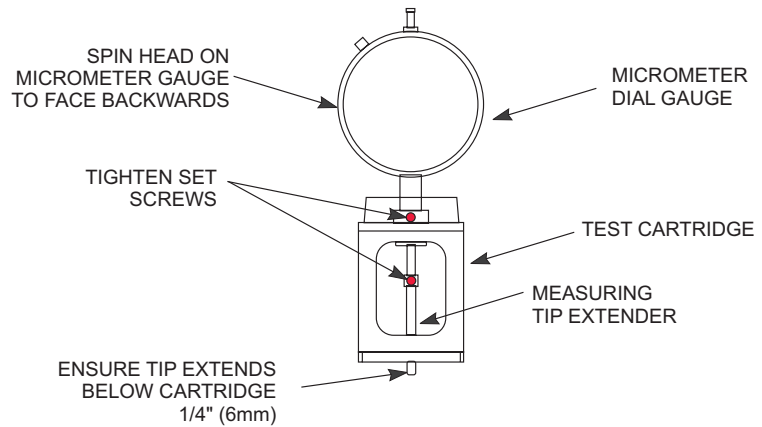

Figure 3-14. Setting Up Tools from Height Gauge Kit.
2. Obtain the 3 tools (Micrometer Dial Gauge, Test Cartridge, and Measuring Tip Extender) from the Height Gauge Kit. Assemble the tools as shown in Figure 3-14.